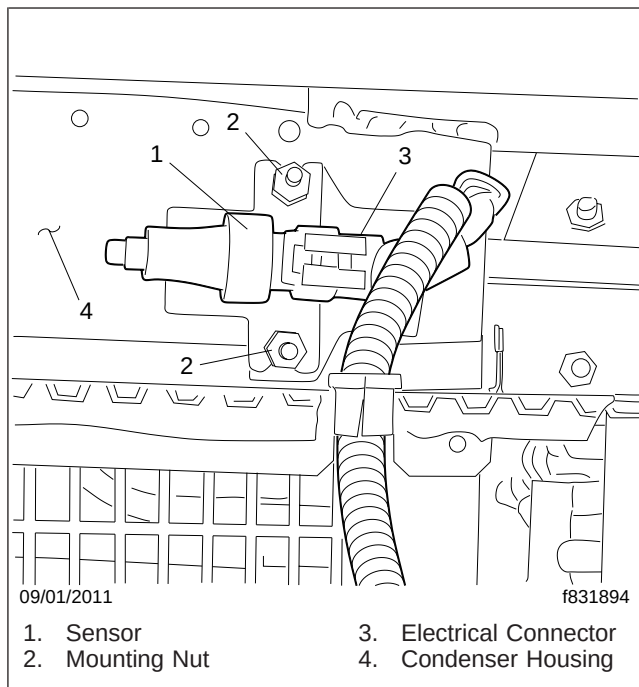

Fig. 3, Ambient Air Temperature Sensor
13. Remove the ambient air temperature sensor. See Fig. 3.